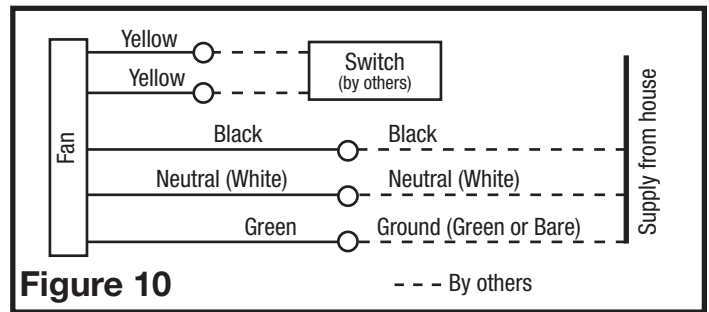

Figure 10
4. For two speed fans wired for continuous ventilation, connect the White wire of the fan to the White (Neutral) wire from the power source. Connect the ground wire from the house to the Green wire from the fan housing. Connect the Black wire of the fan to the Black wire (Hot) from the power source. The fan will operate on low speed continuously and boost to high upon a rise in humidity. Using a properly grounded switch, connect 1 yellow wire to each side of the switch. Closing the switch will change from normal to high speed (Figure 10). A manual override switch (not included) can be added inline with the black (hot) line to provide a manual fan Off function. If this switch is placed in the Off position none of the unit's functions will operate.